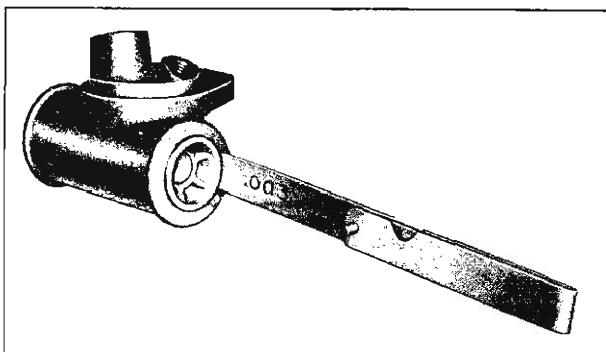

Fig. 26—Checking Wheel Cylinder Piston Fit
3. Check fit of piston in cylinder bore, using a feeler gauge (fig. 26). This clearance should be 0.002-0.004 inch. If clearance exceeds 0.004 inch, replace cylinder.